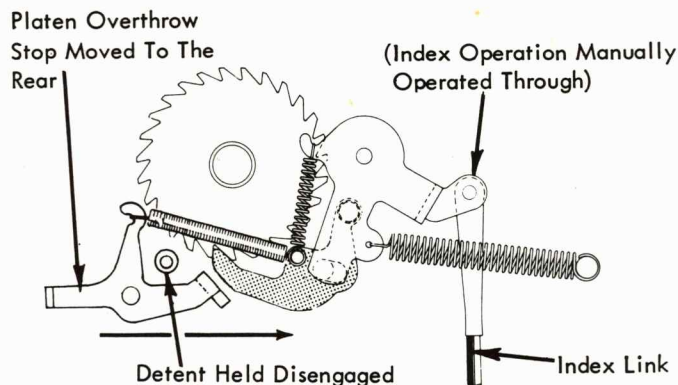

FIGURE 153. Index Link Adjustment
- a. As a preliminary step, loosen the platen overthrow stop and move it to the rear (Fig. 153).